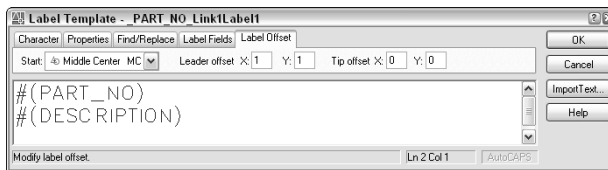

Figure 20-17: The Label Offset tab of the Label Template dialog box.
- Click the Label Offset tab, shown in Figure 20-17. This tab defines the placement of the label and the leader that connects the label with the object. In the Start drop-down list, choose a justification. This defines where on the object AutoCAD places the tip of the leader.